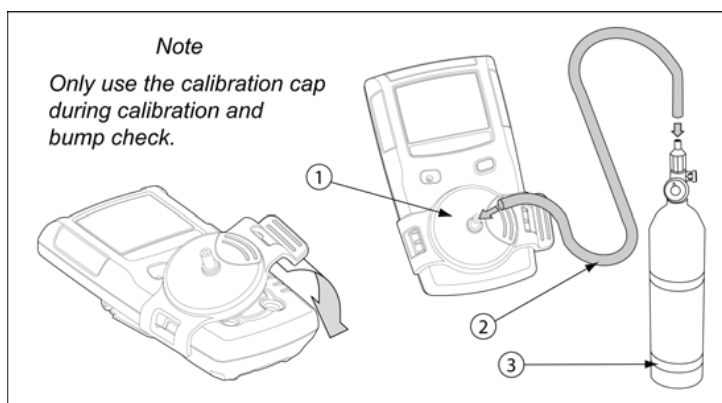

Figure 7. Connecting the Gas Cylinder to the Detector
Refer to the following Figure 7., Table 11., and procedures to connect the gas cylinder to the detector for calibration.
- Attach the calibration cap to the detector. Refer to Figure 7. Open the valve on the regulator and apply gas at a flow rate of 250-500 ml/min.